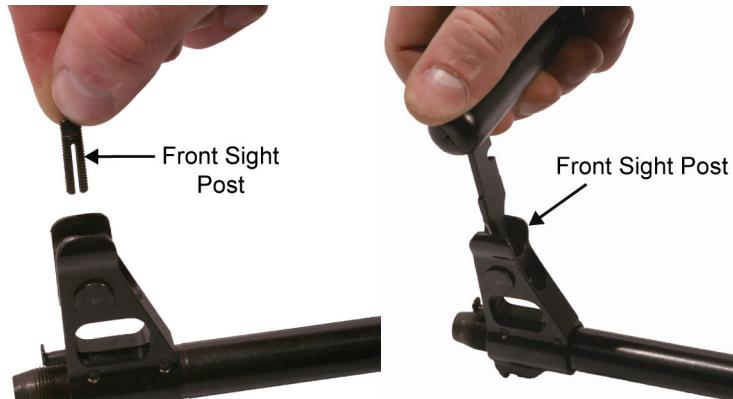

Figure 80. Installing the Front Sight Post.
b. Using the front sight adjustment tool or the combination tool, install the front sight post. Refer to Figure 80.